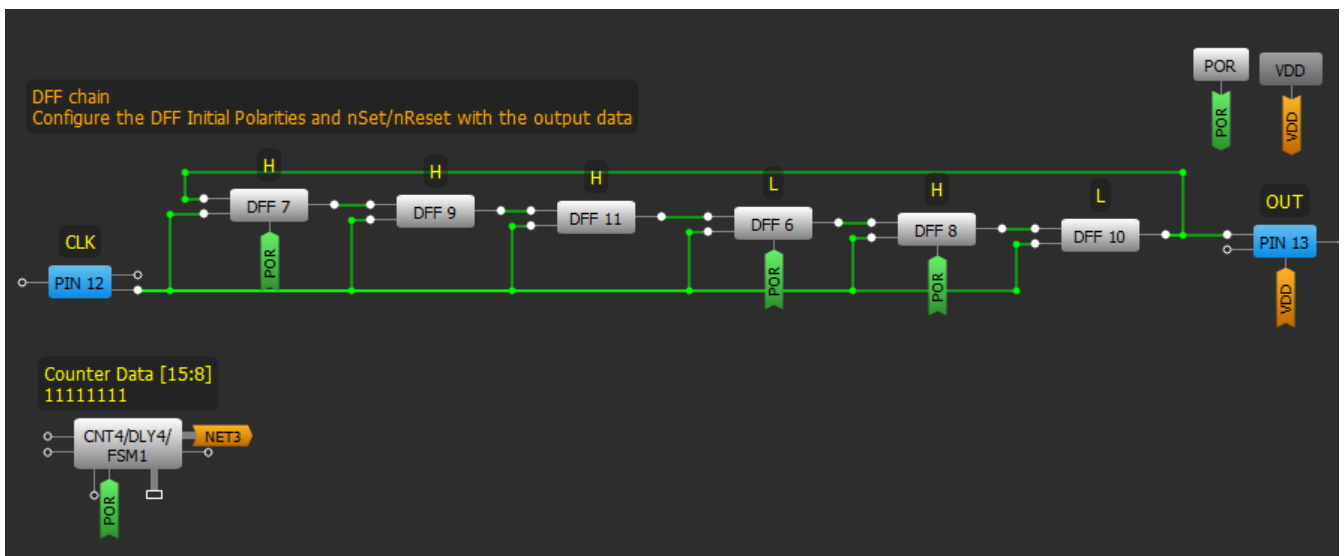

Figure 8. Matrix 1
- Make matrix connections as shown in Figure 8.